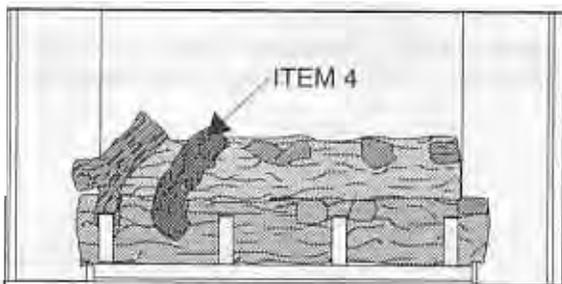

Figure 34
5. See Figure 34. One of the "hooked" Logs (Item 4) is installed next. See Figure 1 for identification. The "hooked" portion of the log will rest on the Front Log on the indentation next to the "Y" log. The "straight" portion of the log will rest on the Back Log's second indentation.